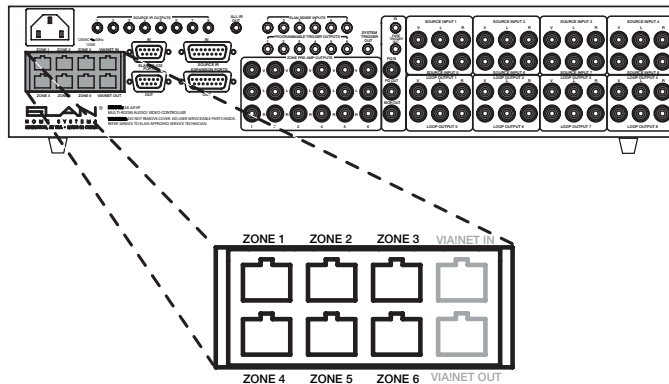

Figure 1-8. Zone 1-Zone 6 Inputs
Zone 1-Zone 6 (1) are used to connect keypads, VIA! Touch Panels and Olé Touchpads providing IR input and Status feedback (see **Figure 1-8**).